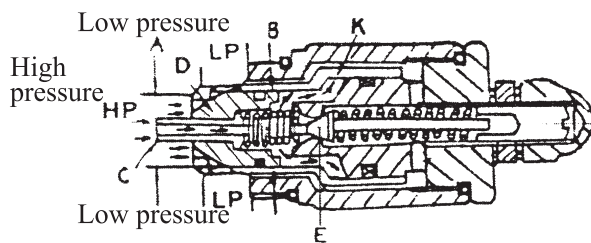

Fig. 7-5
(1) The relief valve is mounted between the cylinder port “HP” and the low-pressure passage “LP”. The oil flows through the poppet “C” and affects the two areas “A” and “B” different in diameter, so that check valve poppet “K” and the relief valve poppet “D” are securely seated. (See Fig. 7-5)